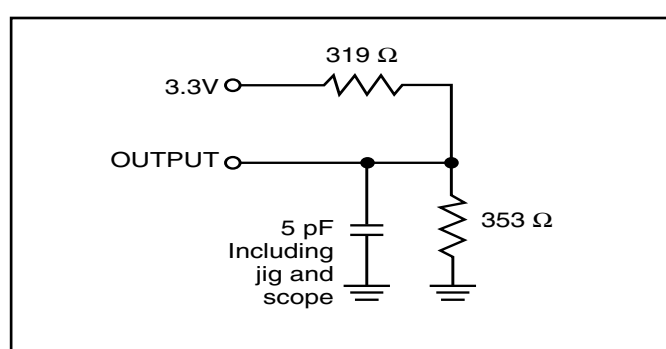

Figure 2.
2. Tested with the load in Figure 2. Transition is measured  $\pm 500$  mV from steady-state voltage.
2. Tested with the load in Figure 2. Transition is measured  $\pm 500$  mV from steady-state voltage. Not 100% tested.